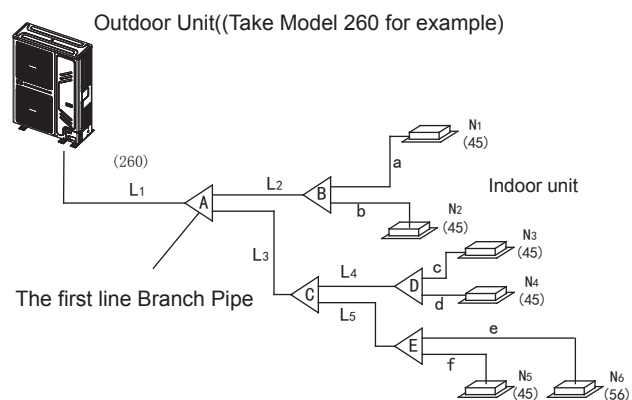

Fig. 4-6
- Main pipe (Please refer to Fig.4-6 and Table 4-4)
In Fig.4-6, the main pipe L1, the outdoor unit capacity is 26kW, and check the Fig.4-6 to get the size of gas pipe/liquid pipe is  $\Phi 22.2/\Phi 9.5$ , and also the total equivalent length of liquid side and gas side pipes is  $> 90$ m, then check the Table 4-4 to get the size of gas pipe/liquid pipe is  $\Phi 25.4/\Phi 9.5$ , and according to the maximum value principle, it should apply the  $\Phi 25.4/\Phi 9.5$ .